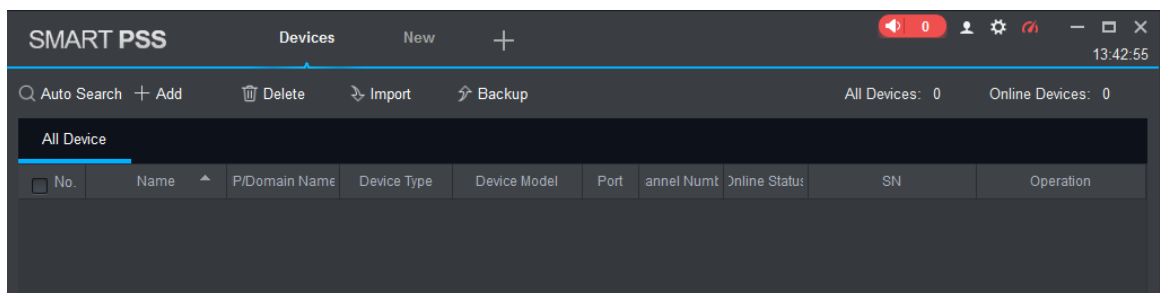

Figure 5-1
Step 1 In “Devices” interface, click “Auto Search”, as shown in Figure 5-1.